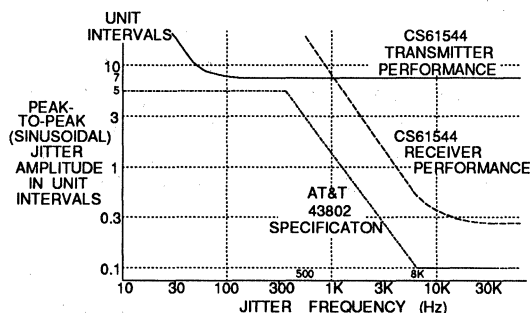

Figure 7 - Typical Input Jitter Tolerance of Transmitter and Receiver
9. For Cerdip ICs, assumes IC is operated within -70° to $+70^{\circ}$ C of reset temperature. For Plastic ICs, assumes IC is operated within -25° to $+40^{\circ}$ C of reset temperature (meets Bellcore central office specification: TR-EOP-000063 NEBS). For all packages, assumes IC is operated within 0.1 V of reset V_+ . Input data pattern is quasi-random: (2 \uparrow 20) - 1 with 1-in-15. Between 500 Hz and 8 kHz the jitter tolerance will be better than the AT&T 43802 line shown in Figure 7.